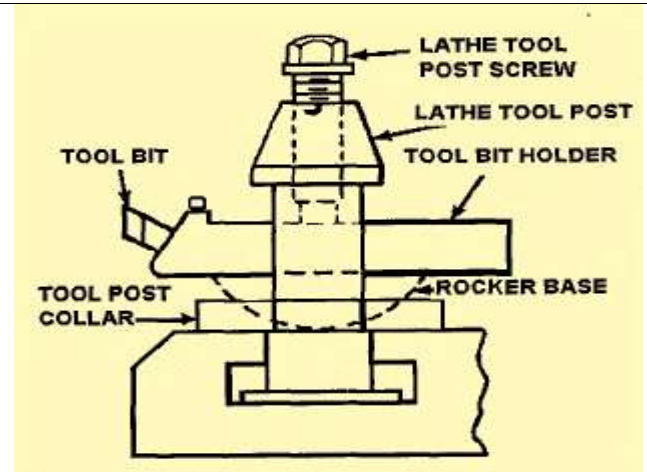

Figure 7-15. Standard round tool post.
**Standard Tool Holders:** Are designed for high-speed steel cutting tools and commonly have a square slot made to fit a standard size tool bit shank. Tool bit shanks can be 1/4-inch, 5/16-inch, 3/8-inch, and greater, with all the various sizes being manufactured for all the different lathe manufacturer's tool holder models. These tool holders are designed to be used with the standard round tool post that usually is supplied with each engine lathe. (Figure 7-15).